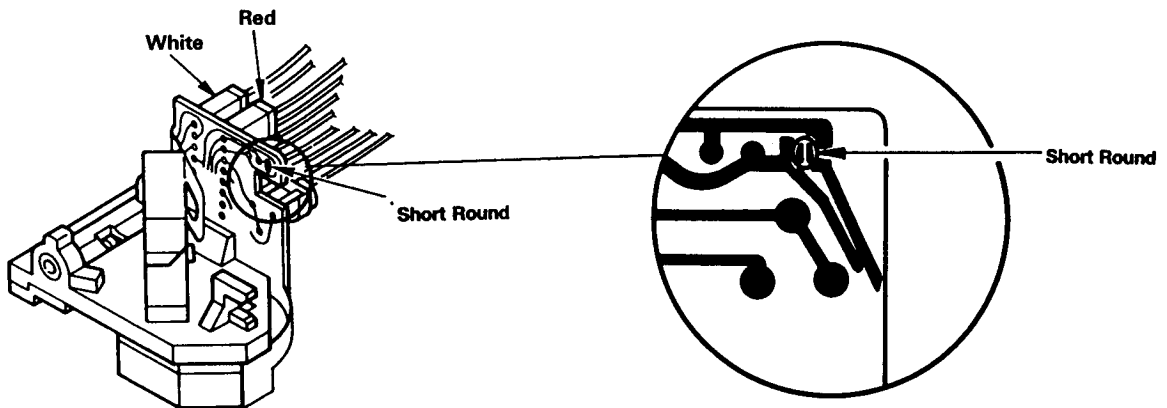

Figure 12
6. After you connect the wire connector, desolder and remove the shorting tab (See Figure 12).